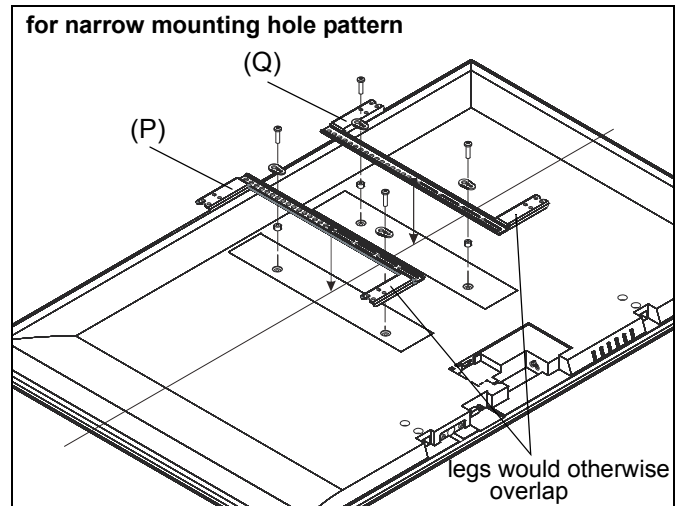

Figure 13
5. Place uprights (P and Q) on display, ensuring: (See Figure 13)
NOTE: If installing to a display with a narrow hole mounting pattern (less than 400mm wide), reverse uprights (P and Q) so that the upright legs do not overlap onto each other. (See Figure 13)